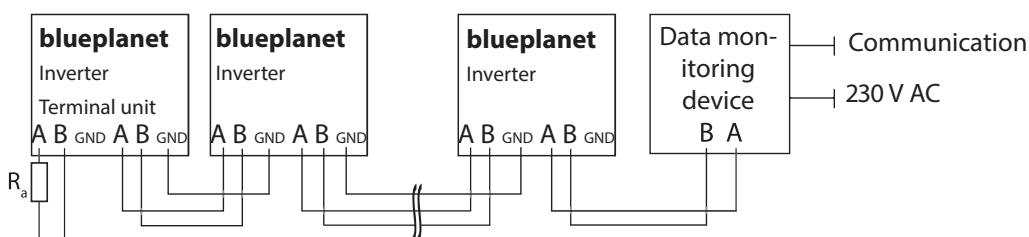

Figure 37: RS485 interface wiring diagram
- GND with GND (see Figure 37 on page 28)